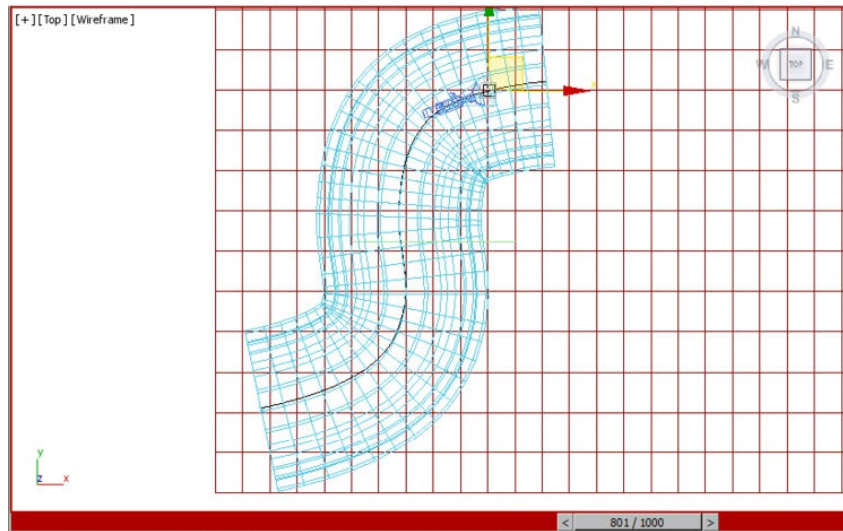

Figure 14-36 The position of the Camera001.Target at frame 801
18. Move the time slider to frame 801 and align *Camera001.Target*, as shown in Figure 14-36.